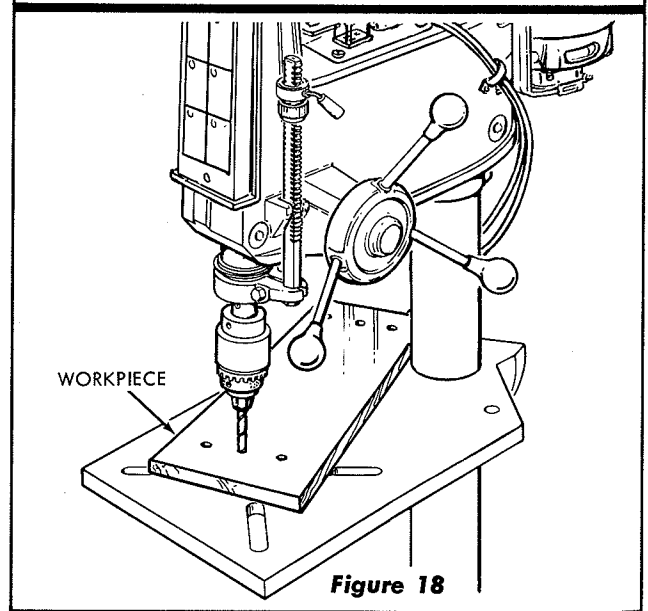

Figure 18
6. Preventing Movement of Workpiece When Drilling. To prevent work from being torn from operator's hands, position wood or metal items against the left side of the column. (See figure 18.) If a metal workpiece is too short